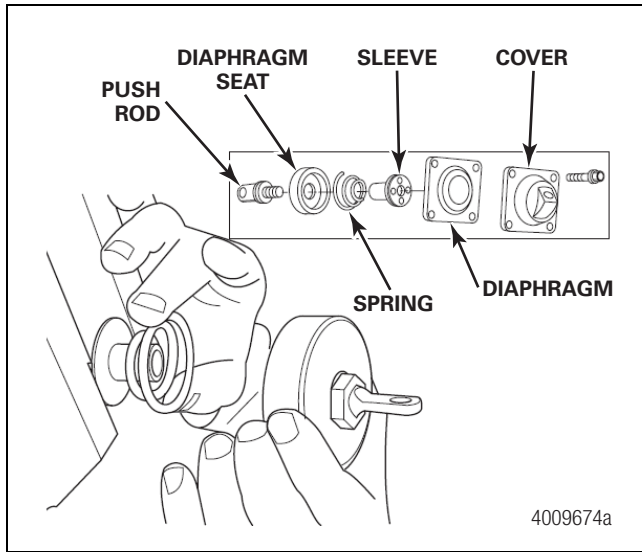

Figure 6.9
1. Install the spring and diaphragm seat onto the diaphragm sleeve. Figure 6.9.